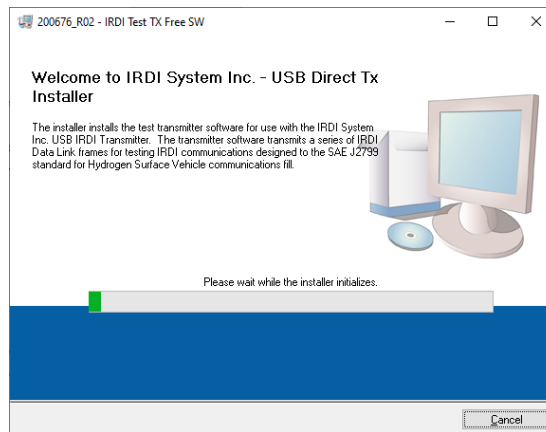

FIGURE 4-5 INSTALLER SPLASH SCREEN
STEP 1	Run the install.exe to begin – see Figure 4-5.